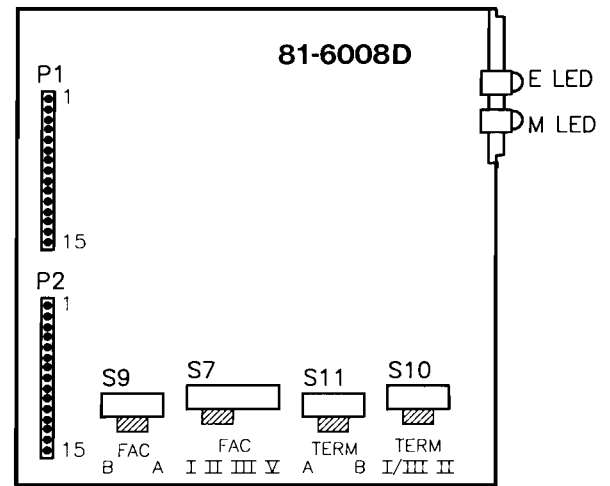

figure 6. 6008D option switch locations
3.03 The 6008D subassembly itself requires no alignment. Before the 6008D is placed into service, however, four option switches on the subassembly itself must be set. One is a four-position slide switch, and the other three are two-position slide switches. Figure 6 shows the locations of these switches on the subassembly's printed circuit board. In addition to the 6008D's switches, several option switches on the host 6131 module must be